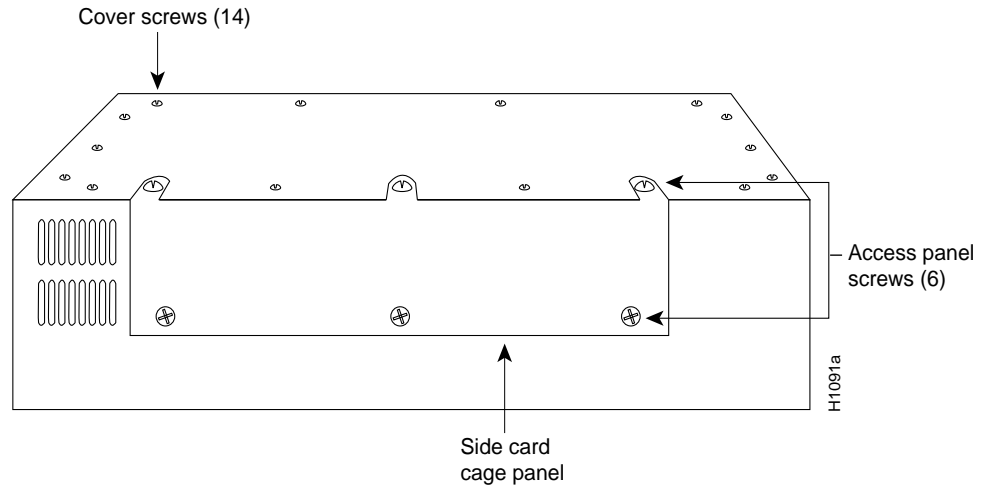

Figure 7 M Chassis Cover Fasteners
You must remove the top panel to gain access to the back panel connector plates and make internal cable connections. Refer to Figure 7 when performing the following steps.
- Step 3:** Replace the card cage access panel and tighten the six access panel screws to secure it (as shown in Figure 7).